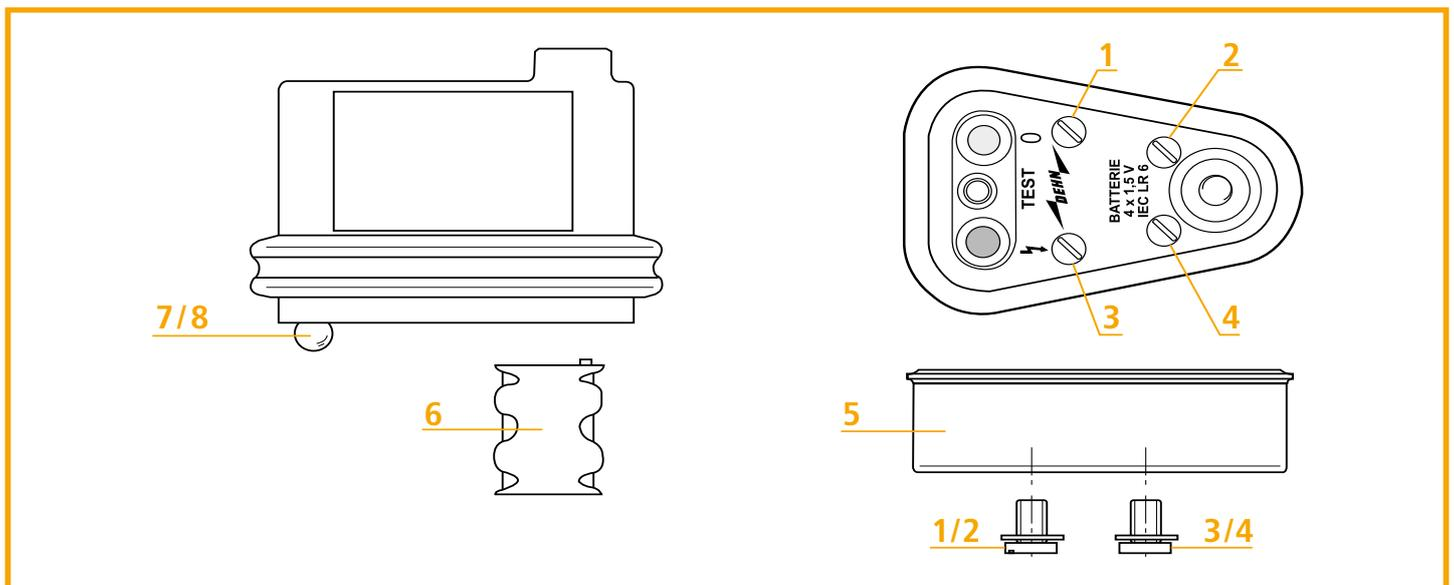

Figure 5
6.1 Battery replacement (see Fig. 5)
6.2 Indicator light replacement (see Figure 5)